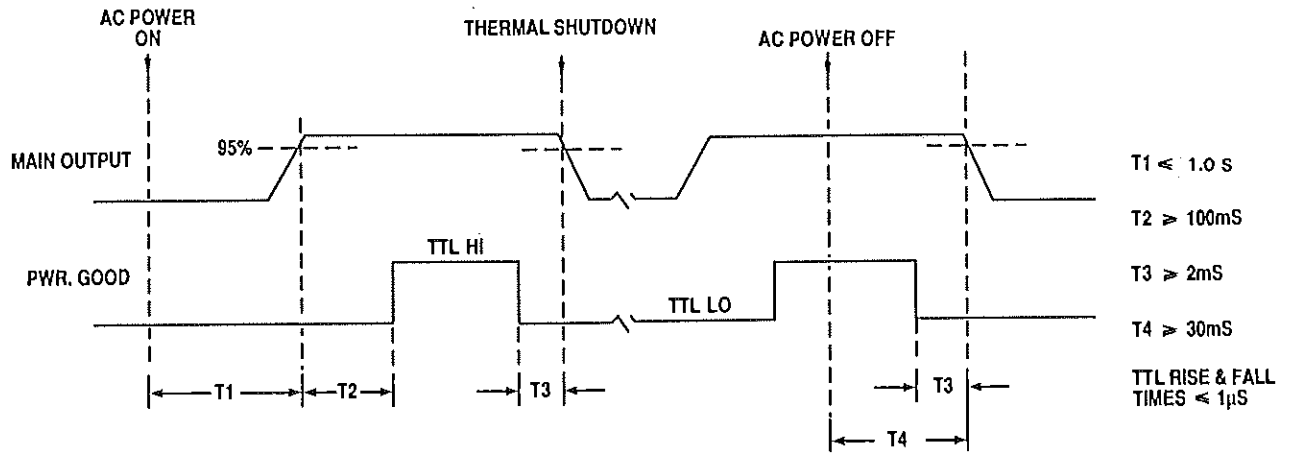

Figure 8. Timing Diagram for Power Good Signal
- 10.7 **Timing Diagram.** The Power Good signal on pin 19 of P1 is a warning signal for the loss of AC power, main output loss, or thermal shutdown. It is a TTL output signal which is shown in the timing diagram of Fig. 8. As shown, the Power Good signal gives at least a 2 millisecond warning of either a thermal shutdown or loss of AC power. **Note:** On DC input versions (Option Q) of the TP Series, there is no Power Good signal.